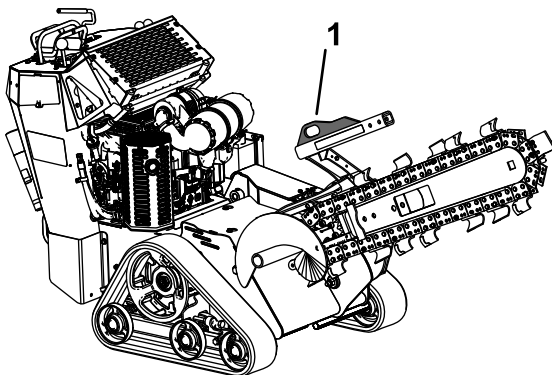
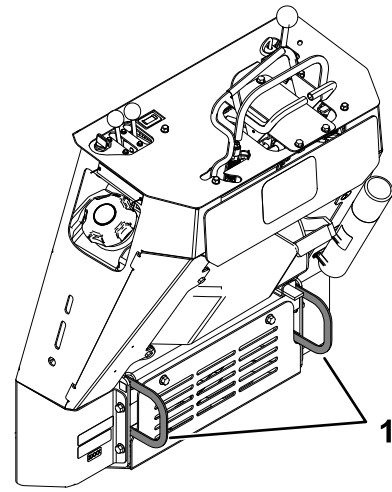

Figure 17
Figure 18
3. Secure the machine to a trailer with chains or straps using the tie-down/lift loops at the front and rear of the machine (Figure 17 and Figure 18). Refer to your local ordinances for trailer and tie-down requirements.
You can lift the machine using the tie-down/lift loops as lift points (Figure 17 and Figure 18).